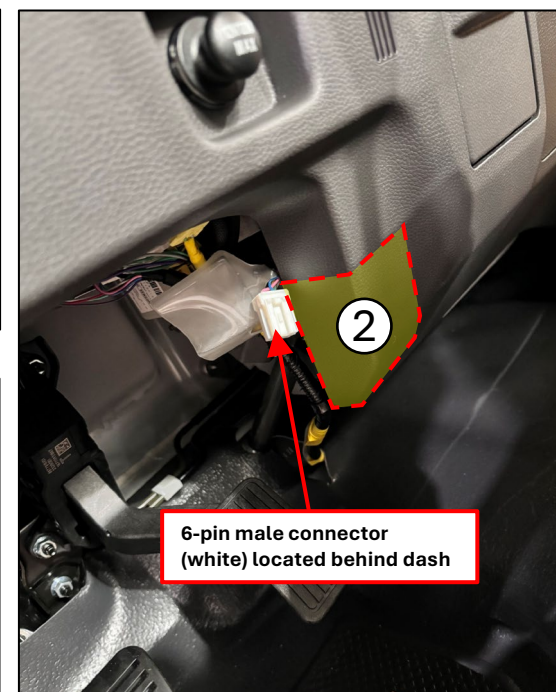

Figure 4
- 2 Find the white 6-pin chassis side connector located at the edge of the dash adjacent to the cup holder as shown in Figure 4.